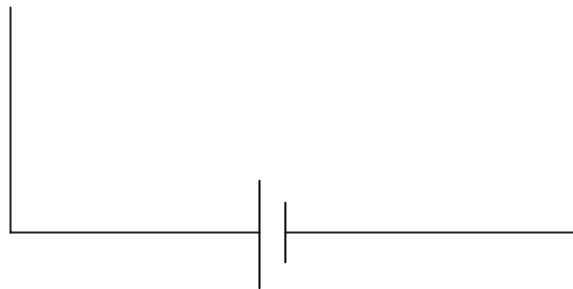

Fig. 2
- (ii) Two resistors connected in parallel are required to complete the circuit diagram in **Fig. 2**. Complete the circuit diagram as described. [3]
- (iii) If the resistors used in **Fig. 2** have values of **3.9 k Ω** and **6.8 k Ω** respectively, calculate the value of the single resistance needed to replace the two resistors.